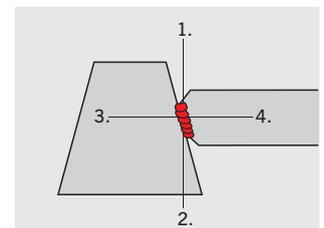

Fig. 9
**Note:** Ensure that the weld is uniform by alternately welding a counterpoint on each side. Each bar should be welded first to an implant abutment and then to the other ends. (Fig. 9)